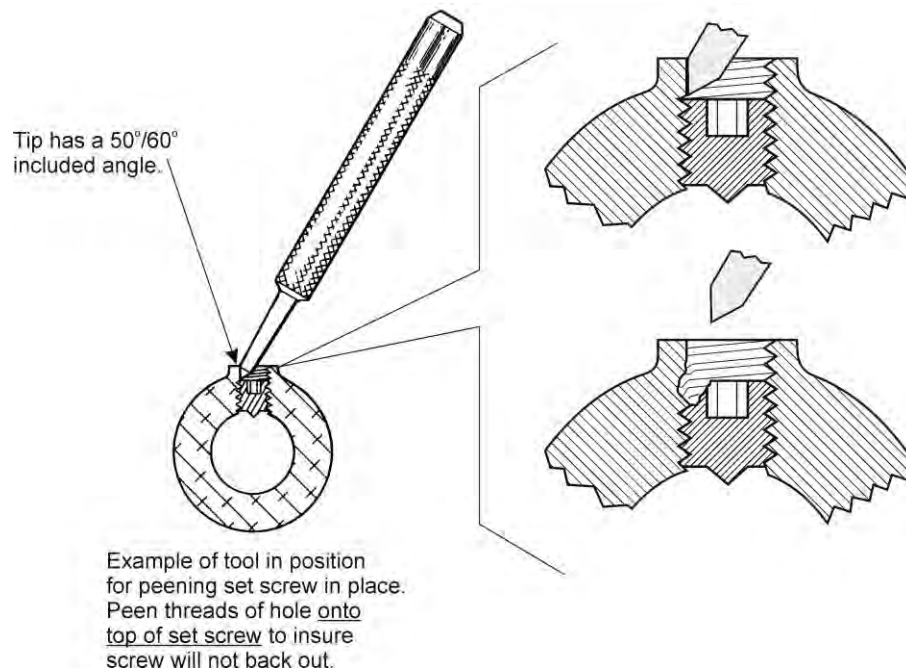

Figure 68
- (3) Torque the set screw 32 to 38 in.-lb. (3.6 to 4.3 Nm).
- (4) Use a smaller center punch (peening tool) with a 3/32-inch (2.38 mm) diameter at an approximate 50°/60° angle to peen the threads of the hole at the top of the taper above the set screw to prevent the set screw (as shown in Figure 68) from backing out.